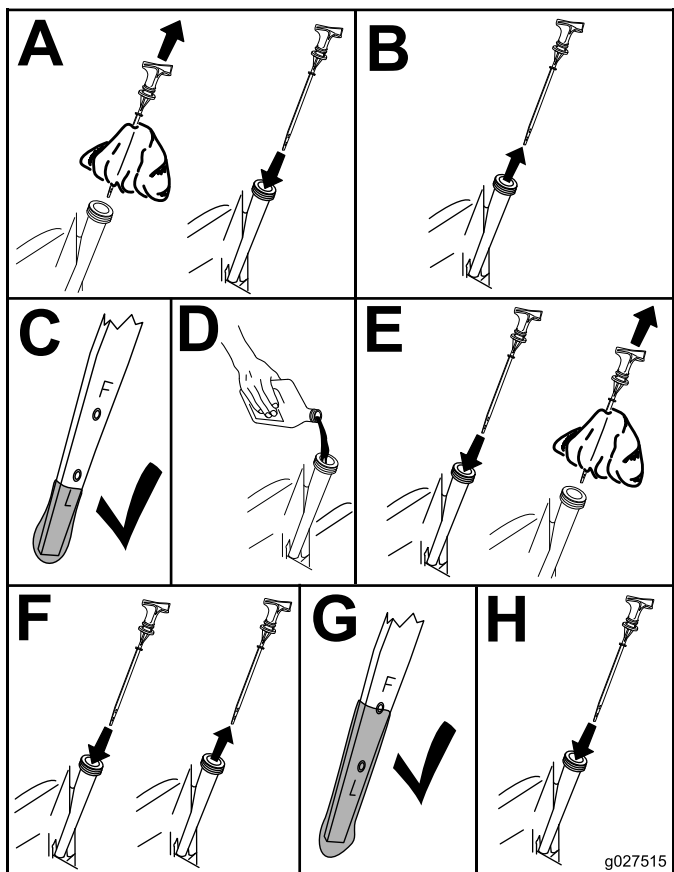

Figure 36
3. Check the engine-oil level (Figure 36).